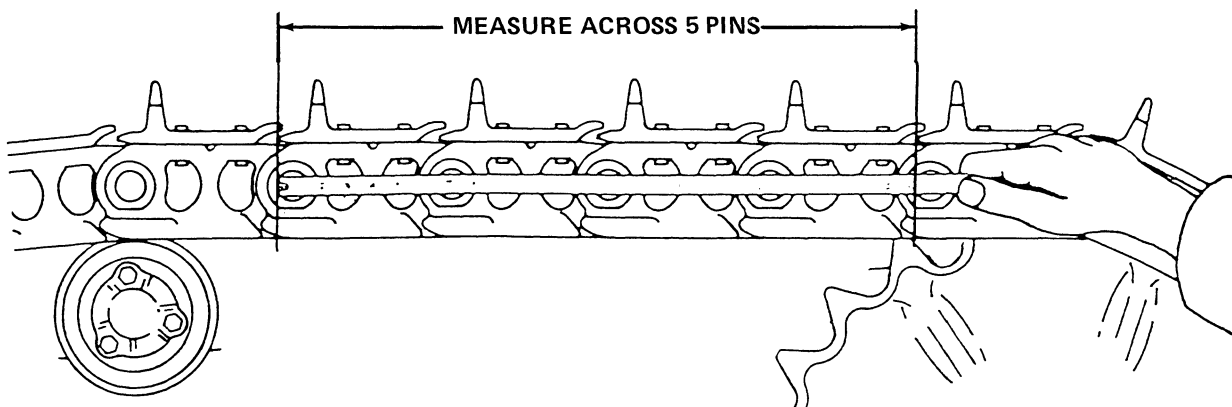

Figure 10. Measuring Internal Pin and Bushing Wear.
2. **INTERNAL PIN AND BUSHING WEAR.** Pull the track tight with the track adjustment cylinder and measure across four track links (five pins) as shown in Figure 10. If the measurement is more than what is shown in the specifications chart on page 5306-9, the average amount of internal wear exceeds the limit and the pins and bushings should be turned.